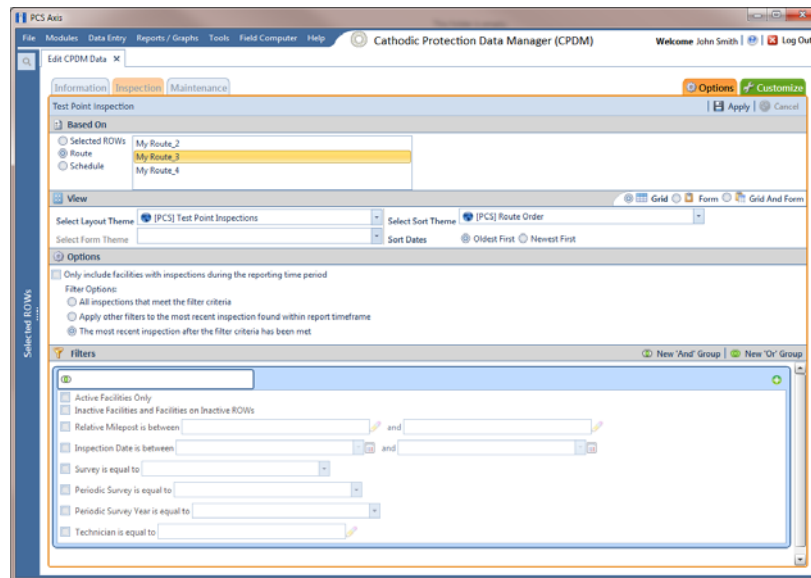

Figure 7-35. Based on Route
- b Click the **Options** tab  to open the options page and then complete the following steps (Figure 7-35, page 246):
- a To change the grid layout theme, click the down arrow in the field **Select Layout Theme** and select a theme in the selection list (Figure 7-35).